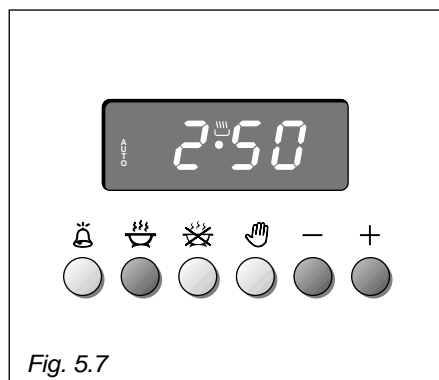

Fig. 5.7
1. Set the length of time you need to cook the food by pushing the ☺ button and the ⊕ button to advance, or ⊖ to go backwards (Fig. 5.7). This sets the desired "stop" time.